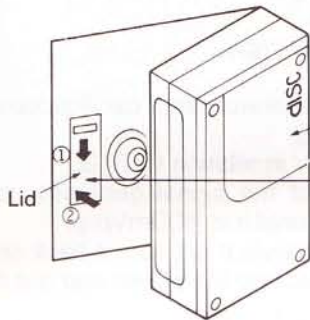

Fig. 11
- (1) Switch on the power. Press the door OPEN/CLOSE button to open the door, then switch off the power. Turn the lefthand side of the unit face down.
- (2) Just the like Fig. 11 illustrates, remove the cover by pressing in the direction of the arrows with a tweezer or minus mini-driver.
- (3) Use the tweezers to remove the belt.
- (4) To put on the belt, put it over the motor axle by using the tweezers and then over the motor pulley.